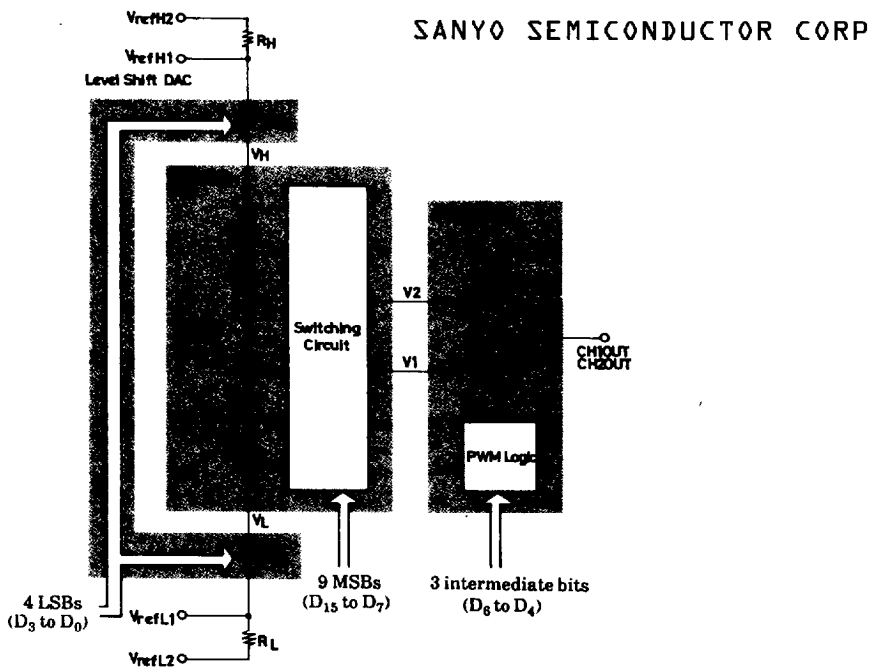

Fig.1 D/A Conversion System of the LC7881
## (2) Conversion (See Fig.1.)
(3) Vref Terminal (See Fig.1.)
The internal resistors (RH and RL shown in Fig.1) limit the maximum amplitude to about 2V (peak to peak) level.